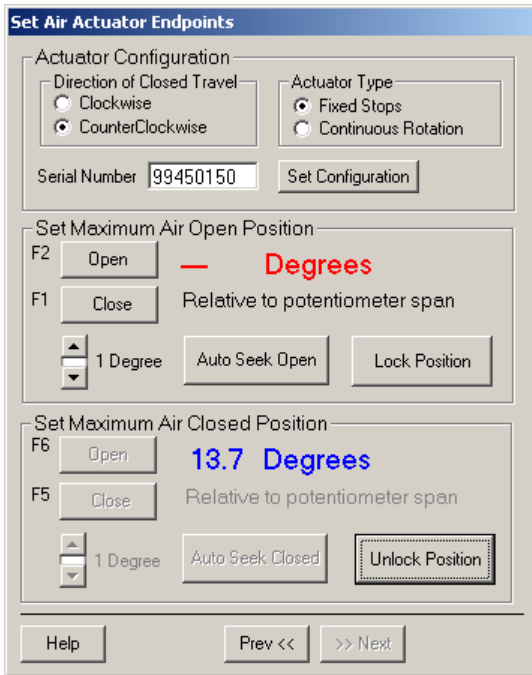

Fig. 10. Move actuator/linkage/damper 2-5 degrees off mechanical closed fixed stop.
- 6. Move the actuator/linkage/damper two to five degrees off the linkage/damper mechanical closed fixed stop. Lock actuator closed position. See Fig. 10.